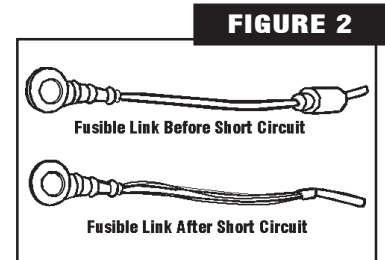

FIGURE 2
1. Careful visual inspection can save time. Therefore, be sure to verify that all electrical connections are clean and tight. Check fuses and fusible links and replace as necessary (Figure 2). Check battery post terminals and cables, replacing all frayed, broken or corroded connectors and wires.